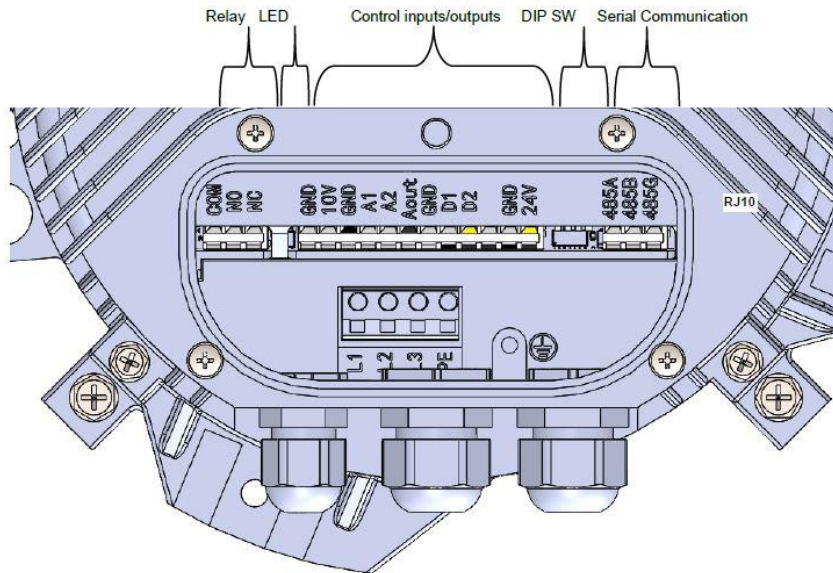

Figure 30. Terminal Strip Layout
11. Wire the terminal blocks shown in **Figure 30**, following the wire labels created in **Step 3**. Refer to **Table 6** for more information on connection designations. After terminating the wire, pull-test the wire to ensure proper installation.